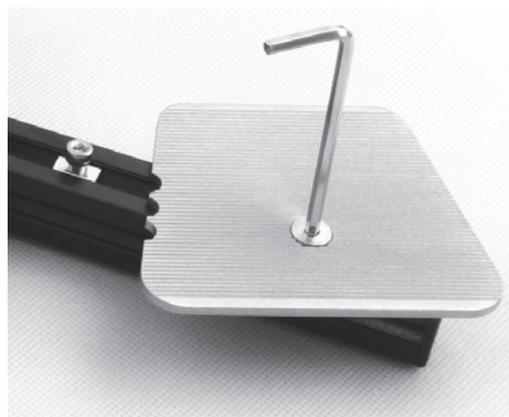

Fig. 2.15.
6.2. Engage the M5 screw to the empty shaped nut (fig. 2.15).